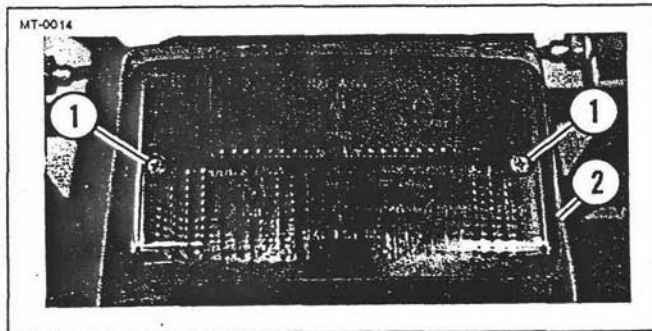

Figure 5-15. Rear Light Unit Lens
1. See Figure 5-15. Using a crosstip screwdriver, remove screws (1) and lens (2).